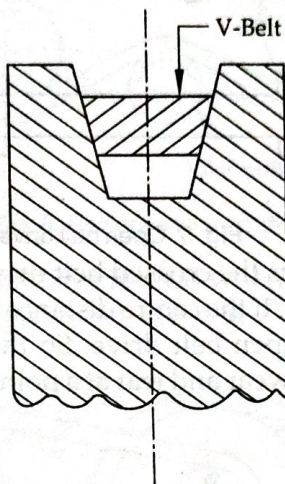

Fig. 3
2. **V-Belt:** The belt having trapezoidal cross-section is known as V-Belt as shown in Fig. 3. It is mostly used in factories and workshops for transmitting great amount of power, when the two